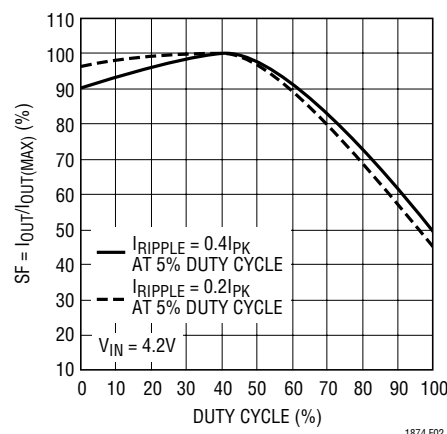

Figure 2. Percentage of Maximum Output Current vs Duty Cycle
**Note 6:** Peak current sense voltage is reduced dependent upon duty cycle to a percentage of value as given in Figure 2.
when the controller is operating below 40% duty cycle. However, once the duty cycle exceeds 40%, slope compensation begins and effectively reduces the peak inductor current. The amount of reduction is given by the curves in Figure 2.
select the appropriate value to provide the required amount of current. Using Figure 2, the value of  $R_{SENSE}$  is: